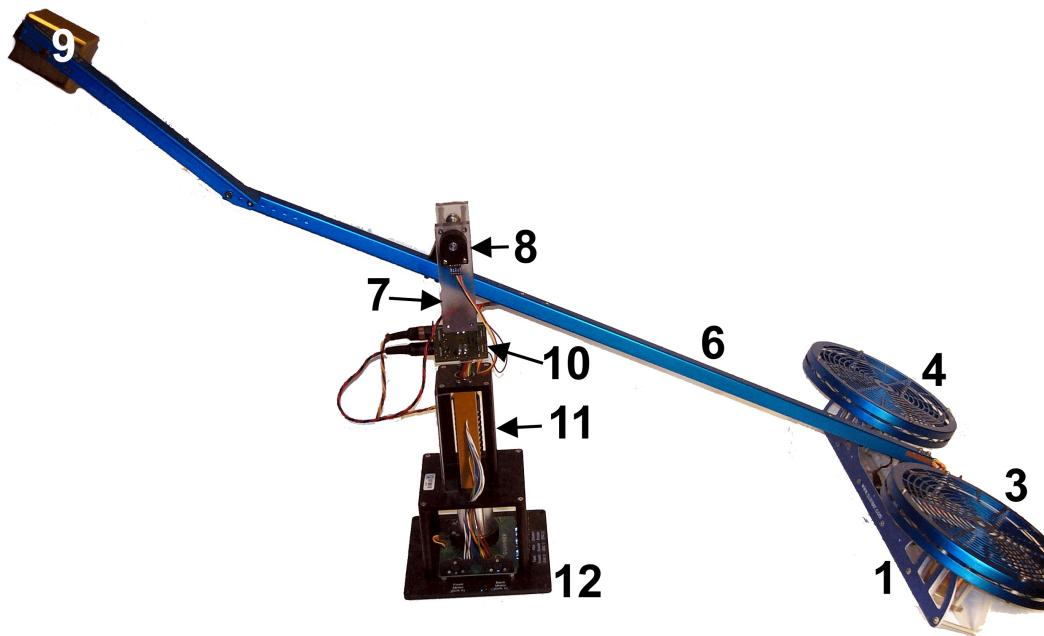

Figure 3: Components of 3-DOF Helicopter.
The components comprising the 3-DOF Helicopter system are labeled in figures 3, 4, and 5 are described in Table 2. The motors, propeller assemblies, and encoders are described in more detail below.
1. Place the support base, component #12 shown in Figure 3, on a table or on the floor.
2. Install the elevation encoder frame, component #7 in Figure 3, on the top of the base. Ensure the white arrow labels on the circuit, ID #10 in Figure 3, and on the frame are aligned. Once fitted, tighten the two thumb screws.
3. Guide the long blue arm, ID #6 in Figure 3, through the elevation encoder frame. Tighten the cap screw maintaining perpendicularity to the elevation encoder frame wall.